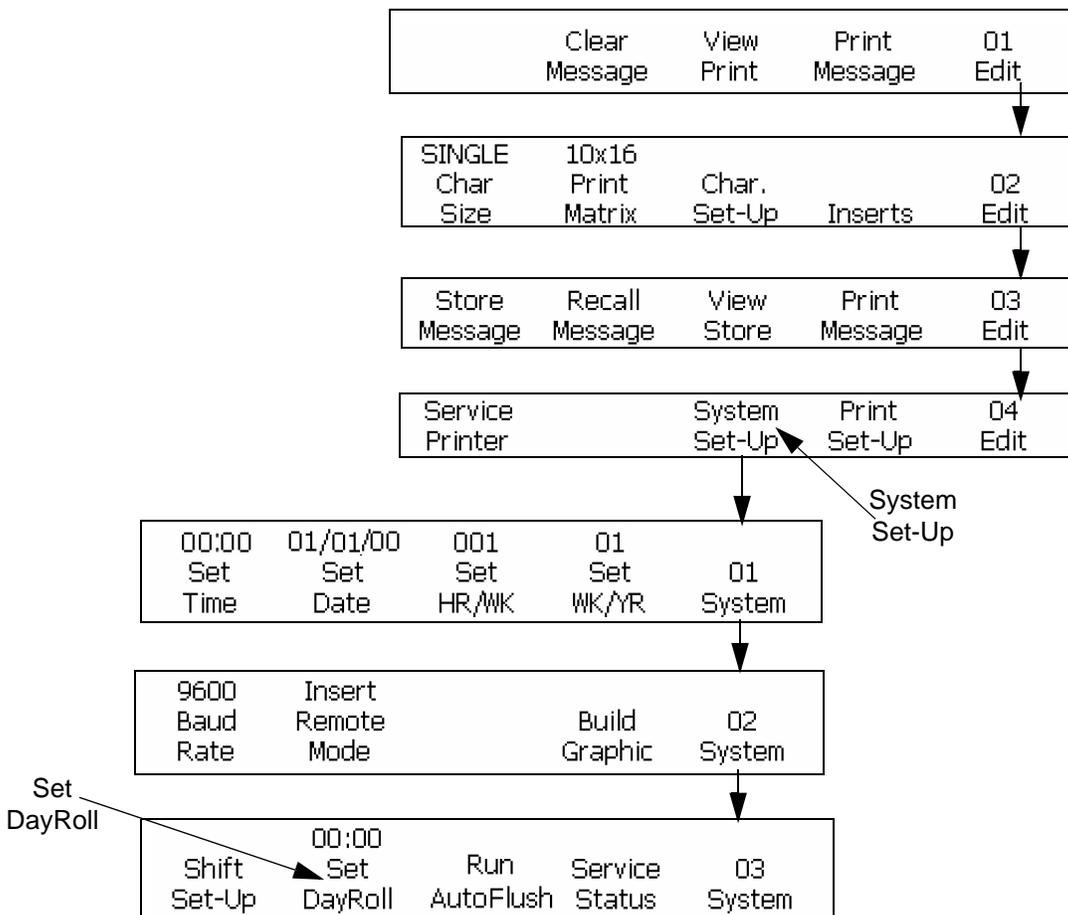

Figure 7-8: Setting the Programmable Date Rollover
- 7 Begin with the frame <03 System>. Refer to Figure 7-8.